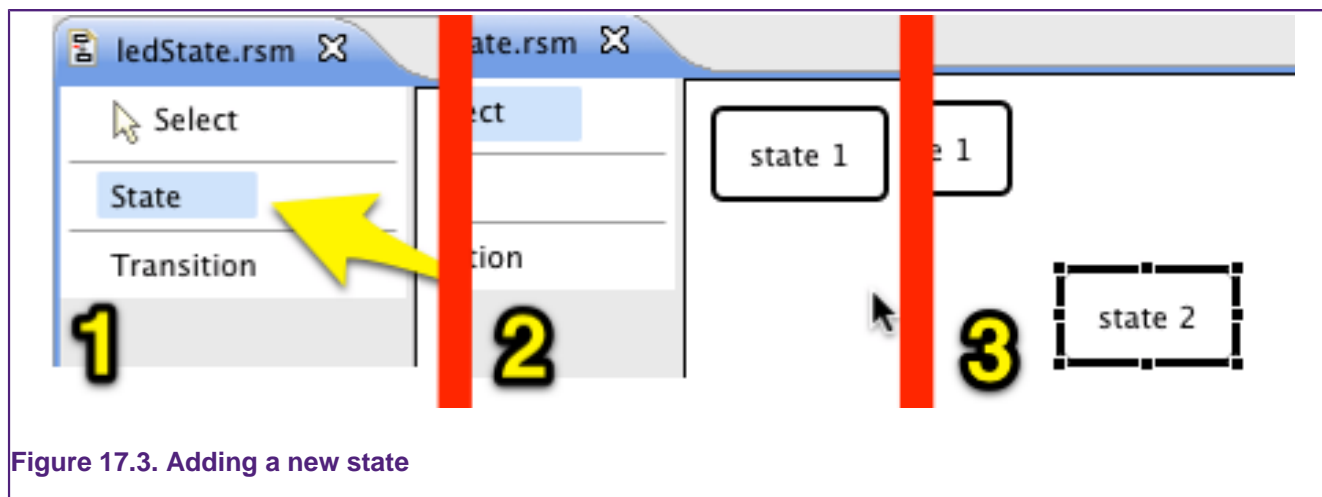

Figure 17.3. Adding a new state
2. Click where you would like to place it in the editor (see Figure 17.3).